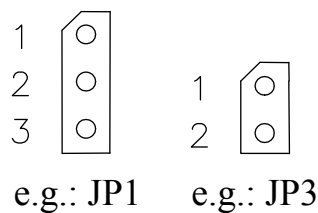

Figure 12: Typical Jumper Numbering Scheme
The phyFLEX Carrier Board comes pre-configured with removable jumpers (JP) and solder jumpers (J). The jumpers allow the user flexibility of configuring a limited number of features for development constraint purposes. Table 37 below lists the 5 jumpers, their default positions, and their functions in each position. Figure 12 depicts the jumper pad numbering scheme for reference when altering jumper settings on the development board.